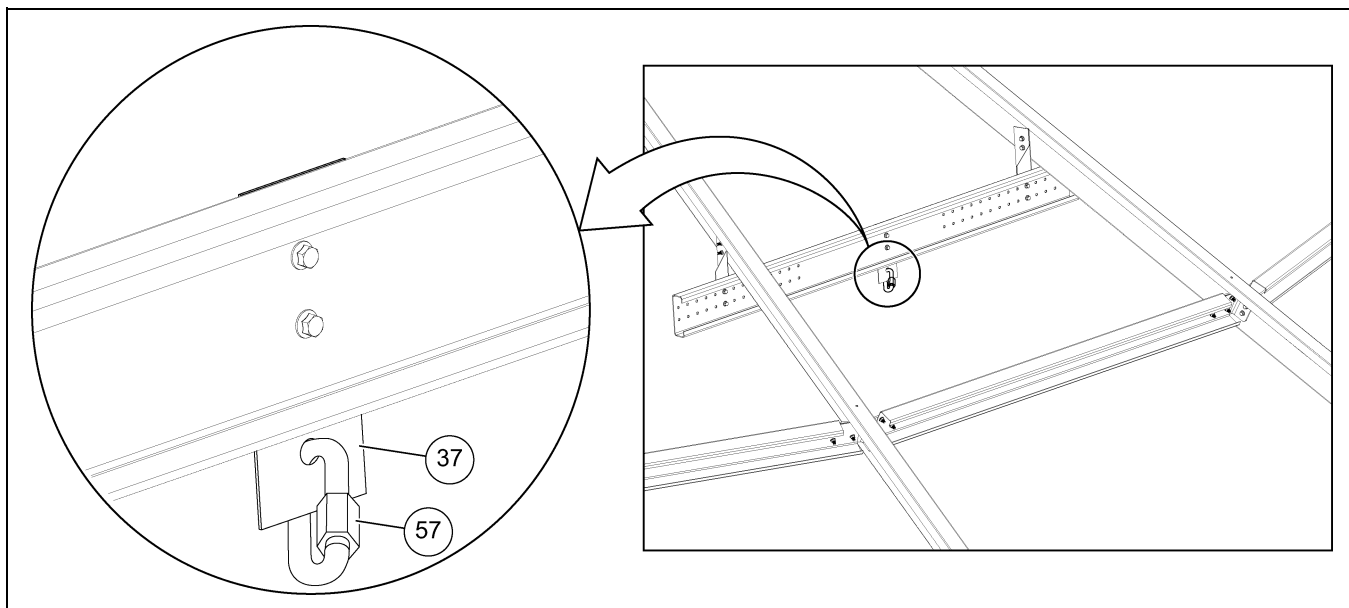

Figure 4R Installing the Supplier Quick Link to the Hanging Bracket
4. Install a quick link (57) to each temperature cable hanging bracket (37) to support the temperature cables. (See Figure 4R.)